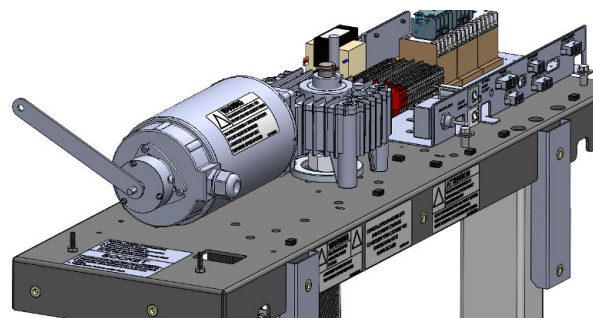

Figure 3-5
5. The wrench fits over the 1/4" hex shaft at the end of the drive motor. It is designed to be rotated by hand — clockwise, which will turn the screw and lower the platform. *See Figure 3-5.*